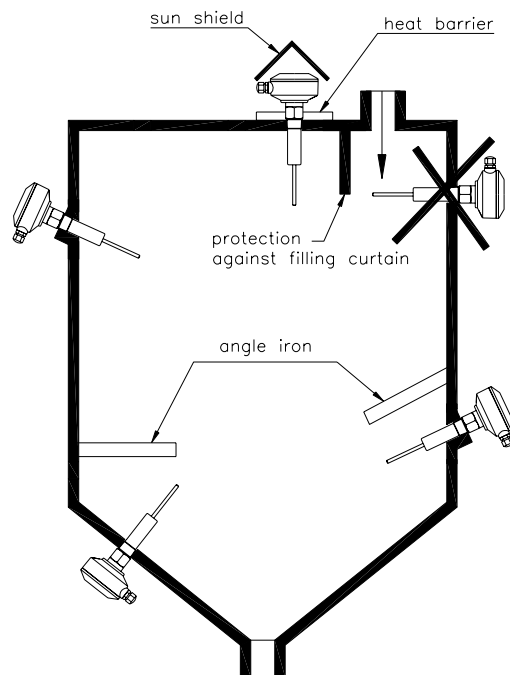

Fig. 5.1: Mounting position
When choosing the mounting position of the DP600 at the bin the following has to be considered, (see also Fig. 5.1):
- For low level detection a shield, for example an angle iron with side length approx. 50mm, must be installed approx. 150mm over the rod as shown in Fig. 5.1 in order to protect the probe against falling material.